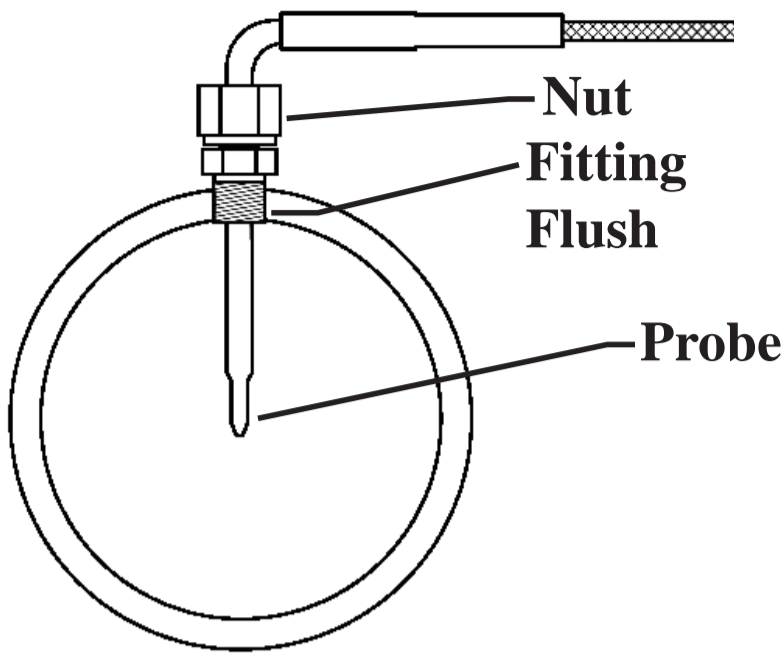

Figure 7 - PROBE INSTALL
- 1) Install the probe into the fitting, and tighten the top nut of the fitting just tight enough to keep the probe firmly mounted. (Figure 7)
NOTE: Ideally the tip of the fitting would be less than or flush with the inside of the exhaust flow path. (Figure 7)